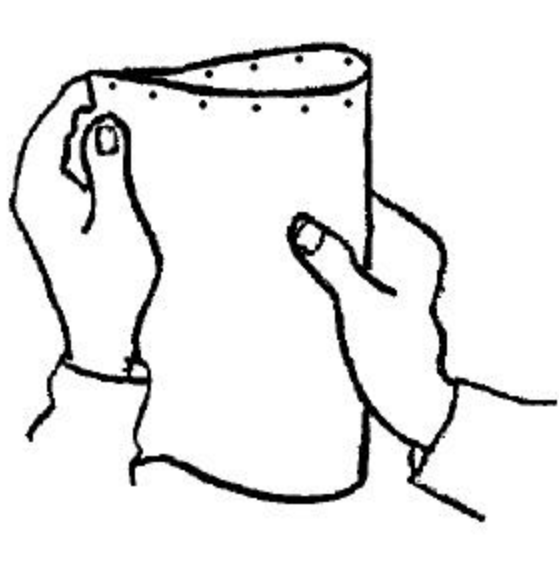

Figure 4-1
1. Adjust the punch edge guide to the correct paper length. Check the punch alignment by punching a sheet of paper and folding it in half along the punched edge (See Figure 4-1). Match the holes up; if the corners of the paper match with no overlap, the alignment is correct. If not, readjust the guide and repeat the process until the edges are square.